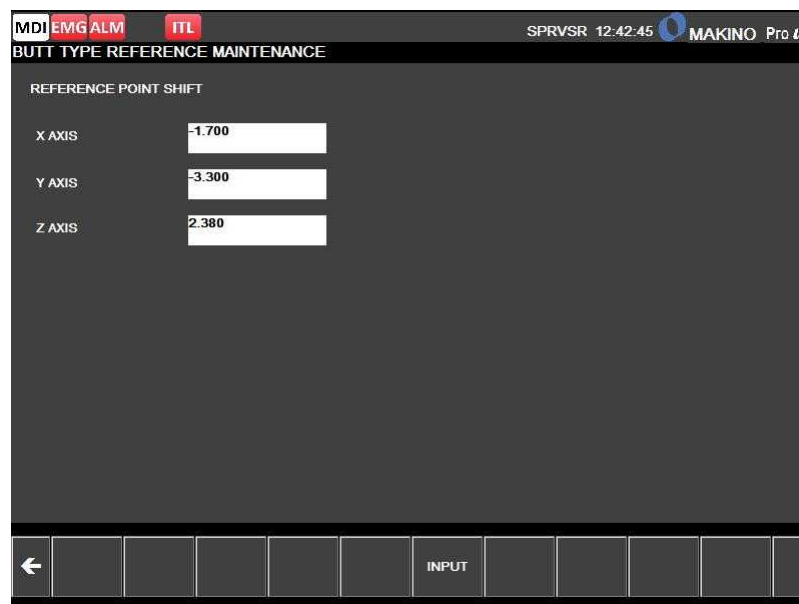

Figure 3.1 Butt Type Reference Maintenance Screen
- 3) Input the required shift value for each respective axis in the Butt Type Reference Maintenance Screen. (Refer to Figure 3.1 ¹⁰³)